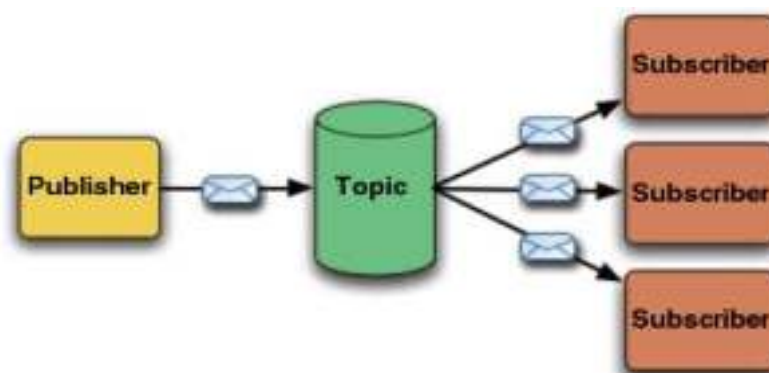

Figure:4.17 Publish-subscribe model
- ✓ Every subscriber receives a copy of each message, message is broadcasted. Figure 4.17 shows publish-subscribe model